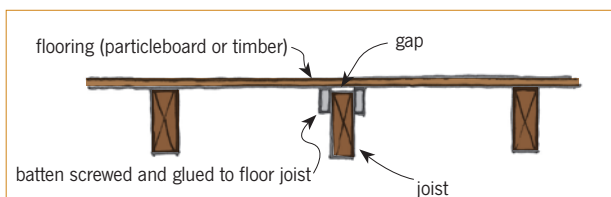

Figure 3: Adding battens to take up gaps between the flooring and the joists.
- installing a timber batten (construction adhesive and screw fixed) to each side of the floor joist as shown in Figure 3, or
- For gaps – install a timber batten (construction adhesive and screw fix) to each side of the floor joist as shown in Figure 3 and screw fix the flooring to the batten or insert a polyurethane construction adhesive that expands on application to fill the gap and improve the adhesion of the flooring to the framing.